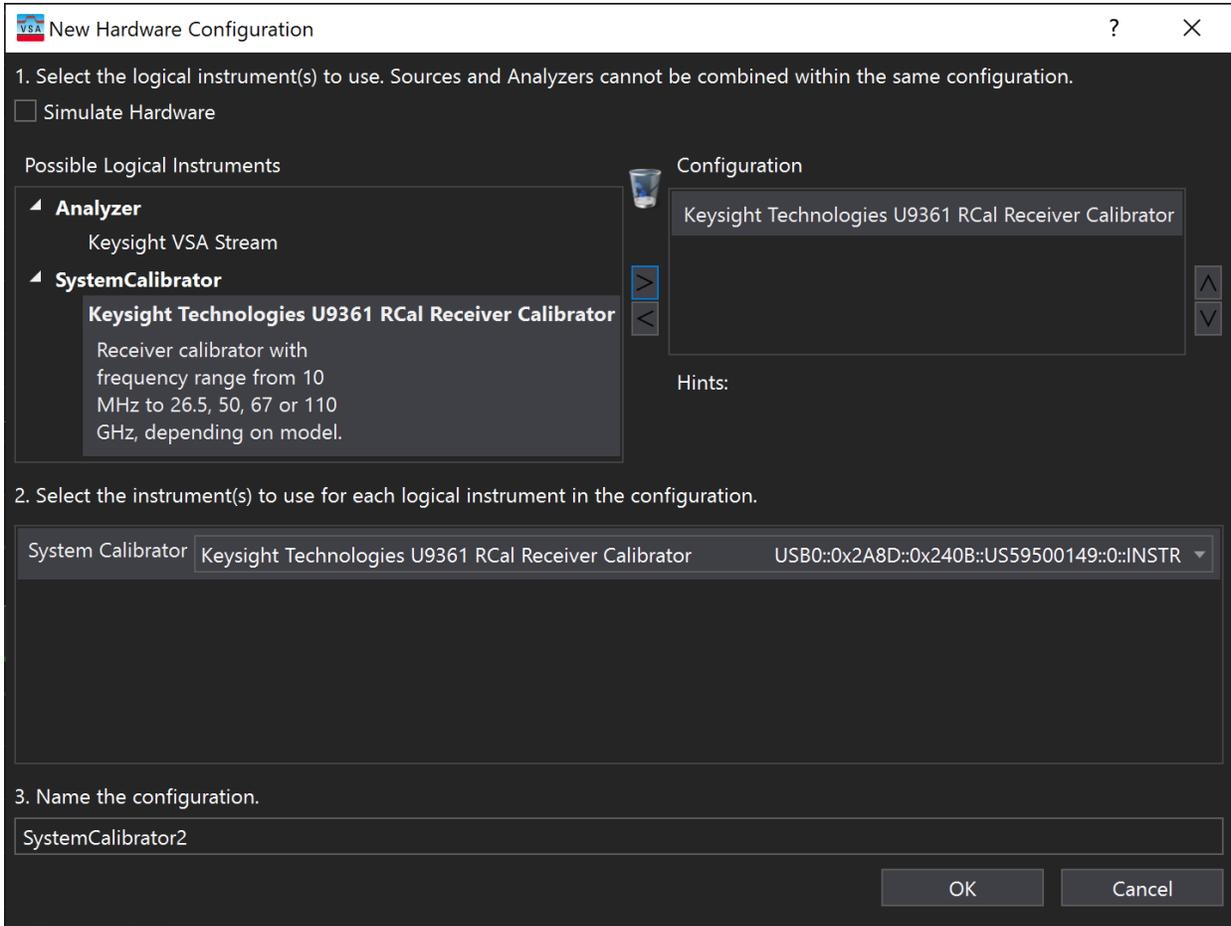

Figure 4. Add U9361 RCal in the 89600 VSA Hardware Configuration
2. Add a pointer to that RCal instance in the 89600 VSA Hardware Configuration (shown in Figure 4)